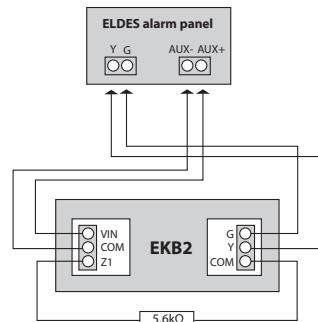

Fig. No. 6
5. Connect keyboard connectors to ELDES alarm panel respectively – Vin to AUX+, COM to AUX-, Y to Y, G to G. Keyboard Z1 zone connect to keyboard COM with  $5,6k\Omega$  resistor (see Fig. No. 6).